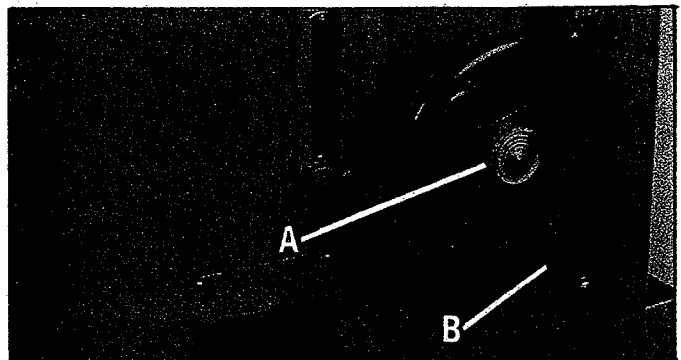

Fig. 18
The spindle can be raised or lowered by loosening lock knob (A) Fig. 18, and turning handwheel (B). Always tighten lock knob (A) after raising or lowering spindle.